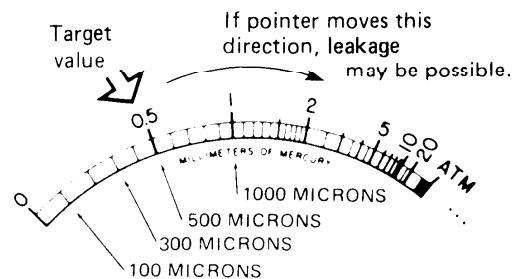

Fig. D-21
- 8) Keep this condition at least 5 minutes and observe the vacuum gauge for change. Fig. D-21.